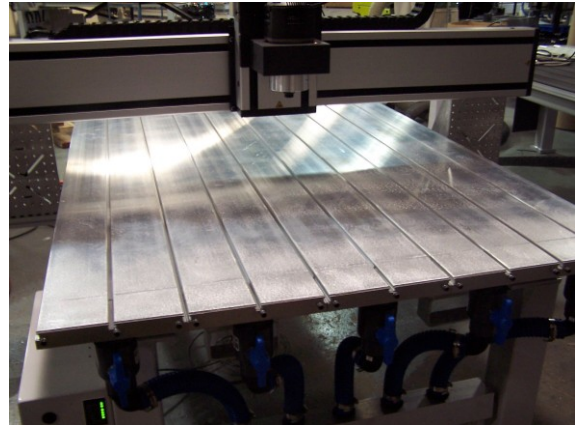

Fig 1
- 1) Free the TABLE of any debris. This includes a previous table top, tape, and any other debris.(See Fig1)